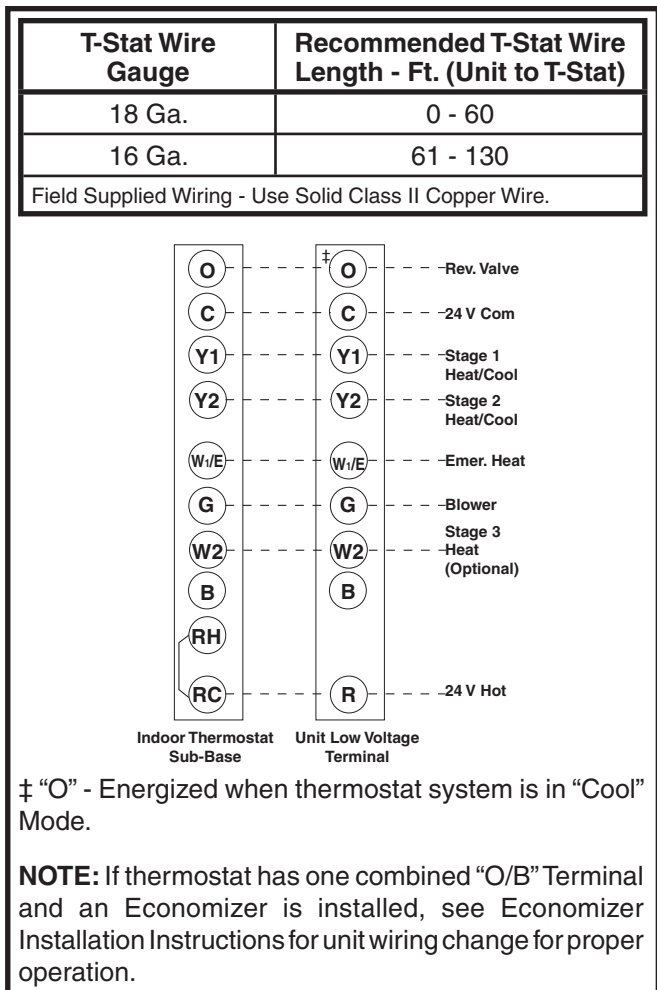

Figure 8. Typical Connections - 2 Stage Cool/3 Stage Heat T-Stat
2. Cut out the cable opening and route the thermostat cable from the unit's low voltage compartment to the thermostat location. The thermostat cable is supplied by the installer. See Figure 8 for recommended wire size.
3. Connect the cable leads to the subbase or thermostat terminals and to the unit's low voltage terminal block as shown in Figure 8. System wiring diagrams are also provided on the inside of the control access panel and in Figure 11 (page 19).